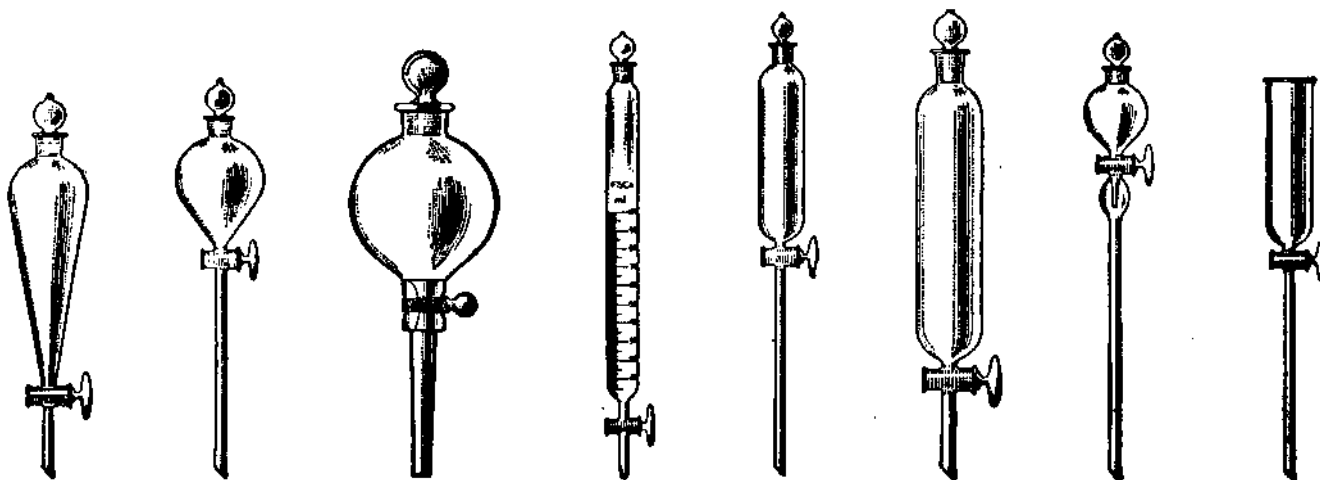

FIG. 24.—Separatory and Dropping Funnel.
15. What special advantage has the 7th funnel in Fig. 24 over the 2nd?